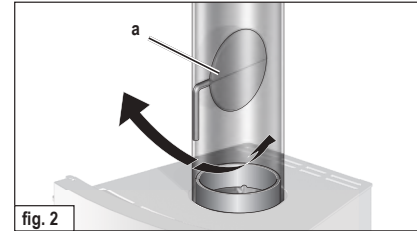

fig. 2
The stove has a maximum permissible output pressure of 20 Pascal. To limit the output pressure, a butterfly valve (a) (fig. 2) or output pressure limiter can be used (only possible with room air dependent operation).
The butterfly valve (fig. 2/a) is an optional control element. It is fitted in the flue pipe and used to regulate the flue gas flow, and can thus slow down the burning-off process. When the handle's position is diagonal to the flue pipe, the flue gas flow rate is turned to minimum. In the case of increased pump pressure in the chimney unit, we recommend installing a butterfly valve.
**Make sure the butterfly valve (fig. 2/a) is open before opening the fire box door during the burning phase.**